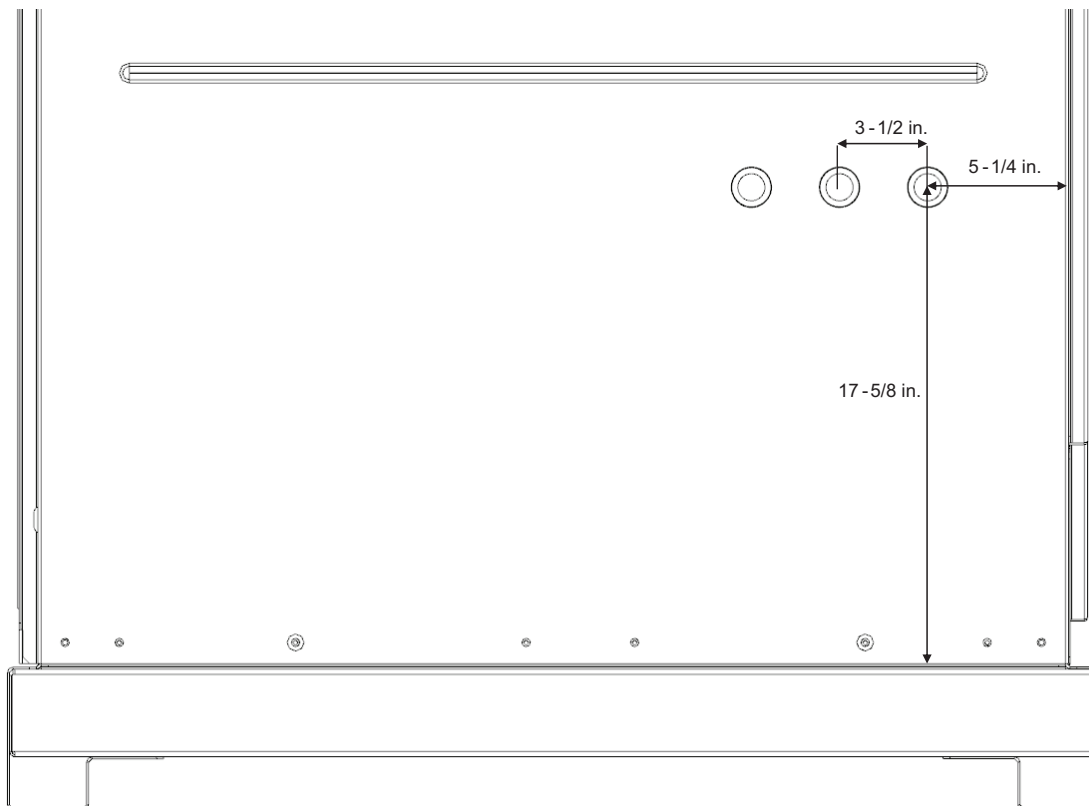

Fig. 29 — Motormaster Conduit Hole Locations — 30RAP 010-030, 38AP 025-030 and 09DP 018-030 Units (30RAP 030 Shown)
Attach MM mounting brackets (Item 723) to the unit corner post using eight AA06BS170 bolts (Item 724), sixteen AU02AB171 washers (Item 725), and eight AT30AB171 nuts (Item 726) provided. See Fig. 29.
4. Cut three 1-3/8 in. diameter holes in the corner post for 09DP 018-030 units or into the access panel for 09DP 035-060 units, at the locations shown in Fig. 29 for 09DP 018-030 or Fig. 32 for 09DP 035-060. Insert the 3 plastic bushings (Item 728) into holes.